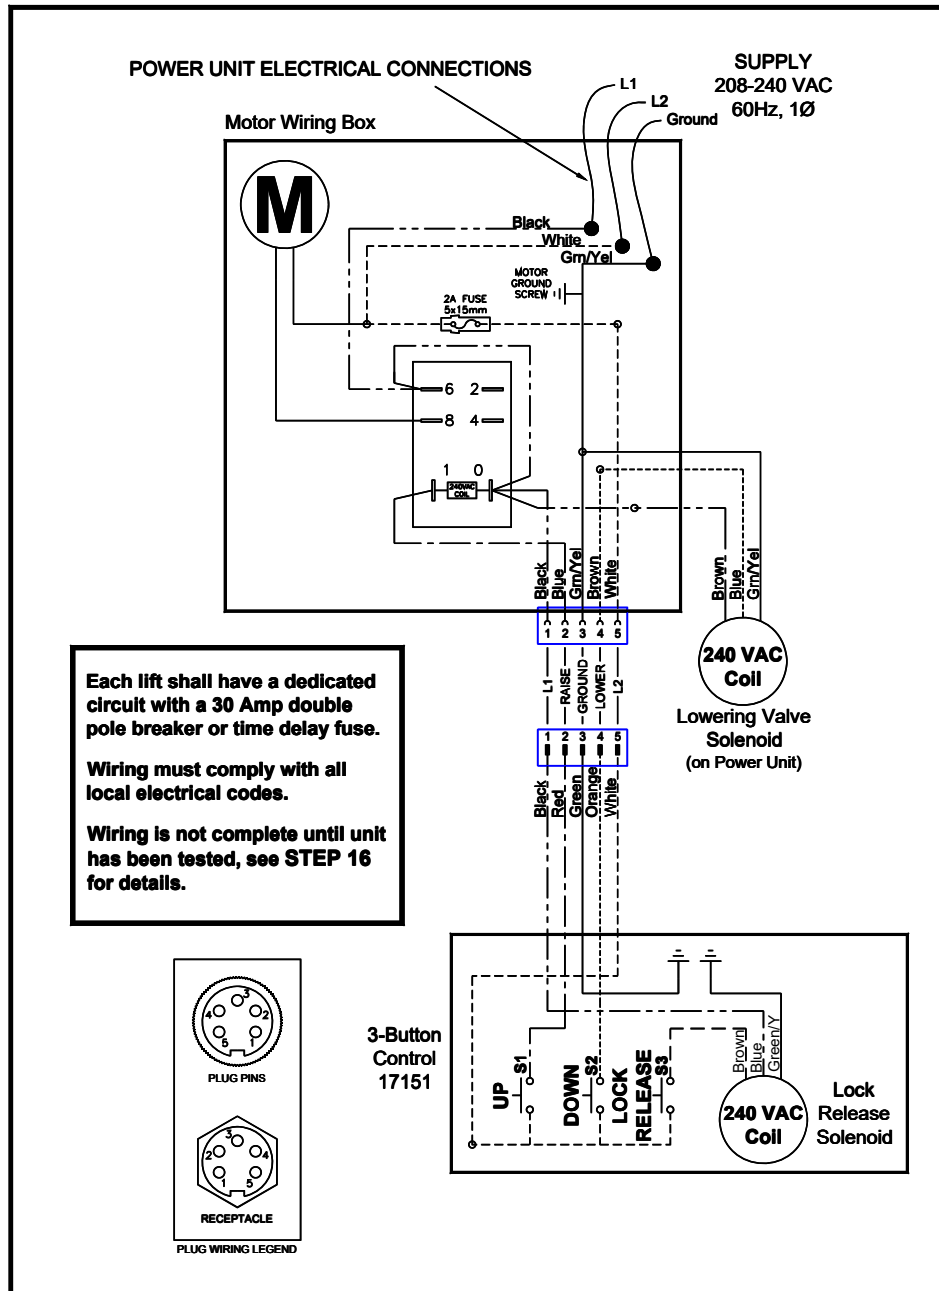

Fig 9 – Electrical Wiring Diagram
15) Connect Power Unit to suitable electrical source as shown in Fig 9.